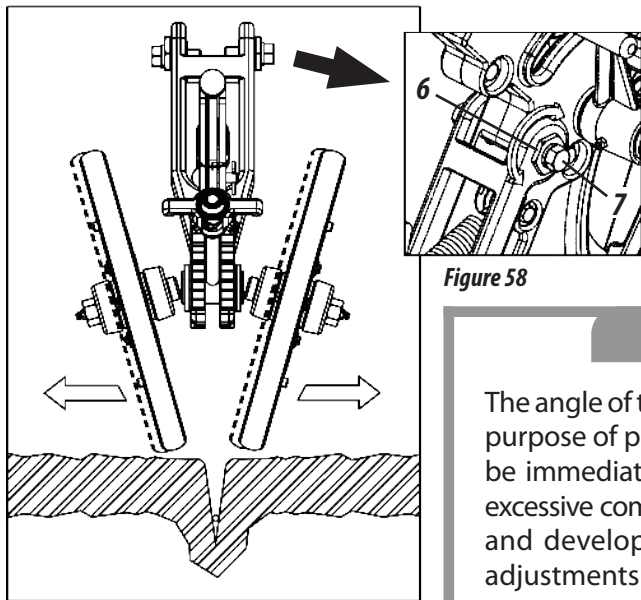

Figure 58
- 1- Loosen the screws (7), rotate the said bushings (6), with a wrench to actuate the wheels and align them with the furrow, placing more or less soil on the side of the seed, **as shown in figure 58.**